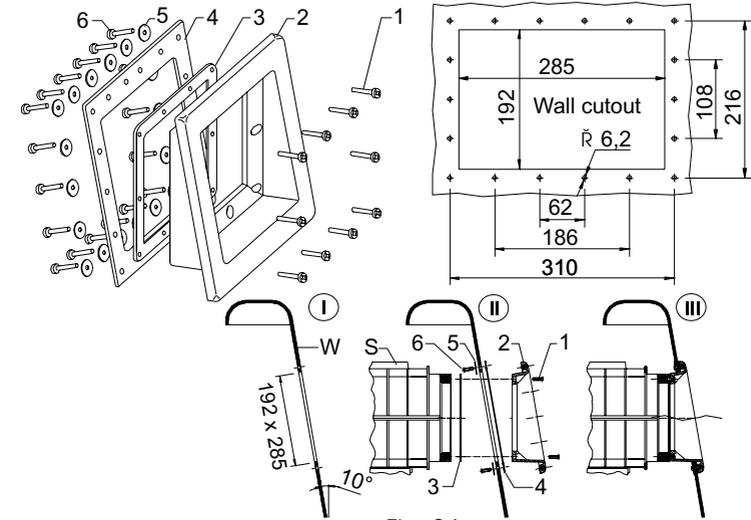

Fig. 24
3.9 Installing the V20 (Item 152402) and VS30 skimmer (Item 154402) in prefabricated pools with a wall pitch of about 10° with the diagonal extension (Item 1531) (Fig. 24)